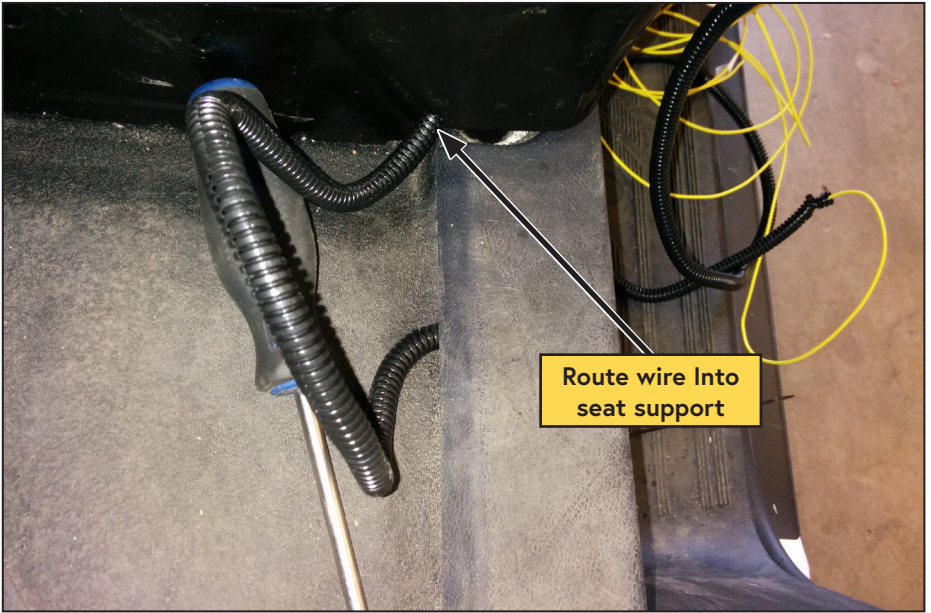

Figure 62 — Driver side seat support
- Route the loomed wires through the gap in the driver side seat support (Figure 62).